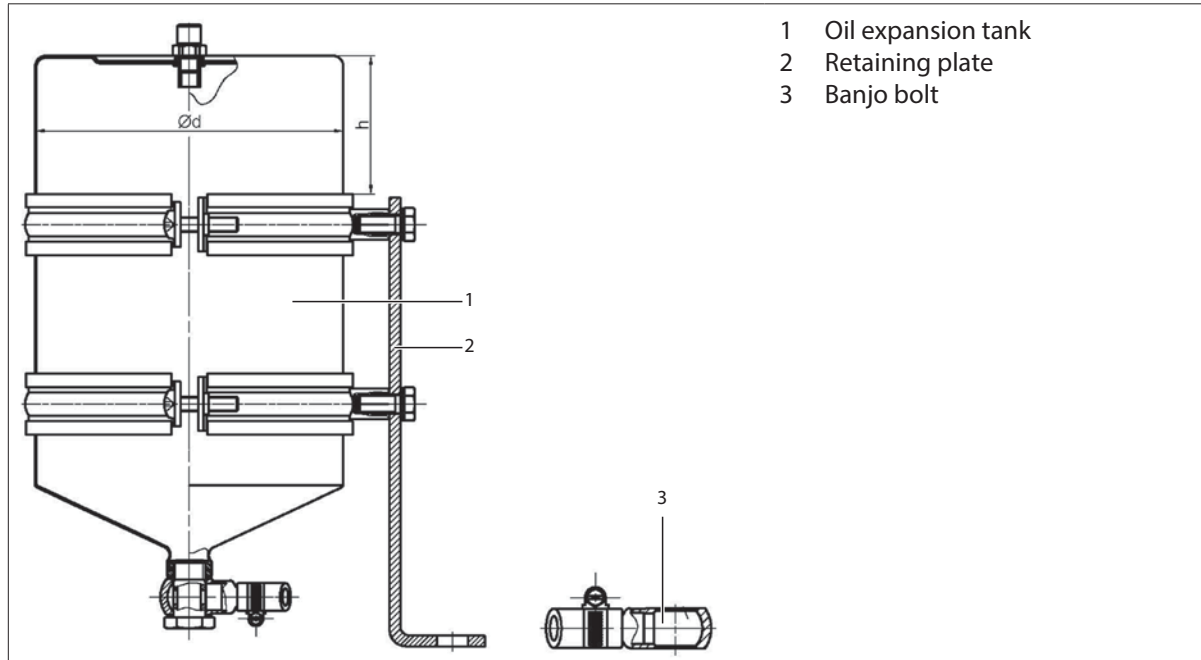

Fig. 10: Accessory set, Part 1: Oil expansion tank unit with retaining plate
- ▶ Place oil expansion tank (1, Fig. 10, p. 33) with mounted retaining plate (2, Fig. 10, p. 33) on threaded bolt (3) and fasten with spring washers (2) and hex nut (1).
2. Align the tank. When doing so, note the correct height position h of the tank, see Fig. 10, p. 33 and Tab. 10, p. 33.